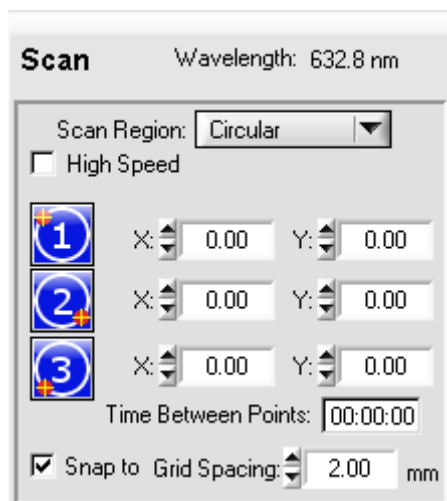

Figure 4.10 Automatic Scan Panel for Circular Scans
1. Select **Circular** from the drop-down menu under **Scan Region**. The scan control now looks like Figure 4.10 below.